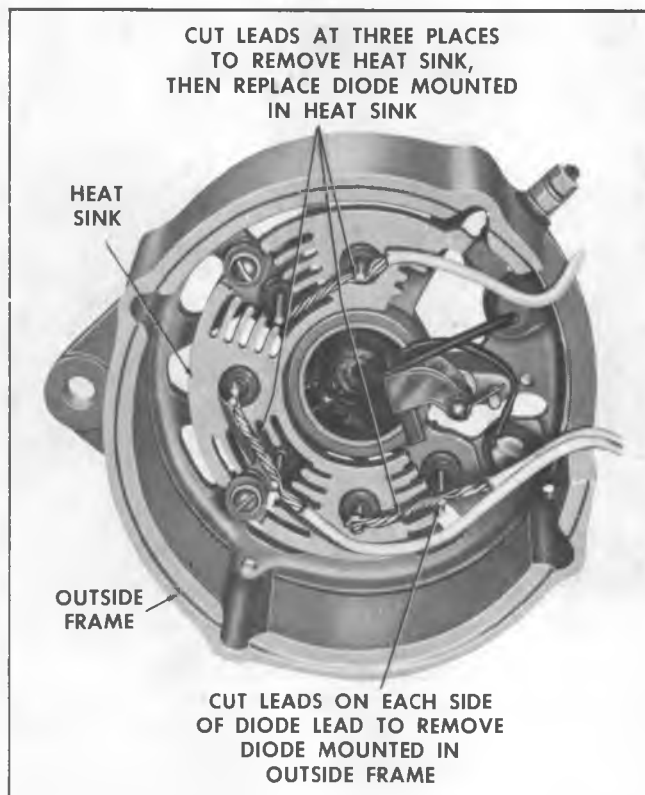

Fig. 12C--Replacing Defective Diodes
1. Cut the flexible lead(s) as close as possible to the defective diode lead (fig. 12C).
3. Install new holder, brush and lead assembly onto pivot pin (fig. 12C). Attach retaining clip to pivot pin.